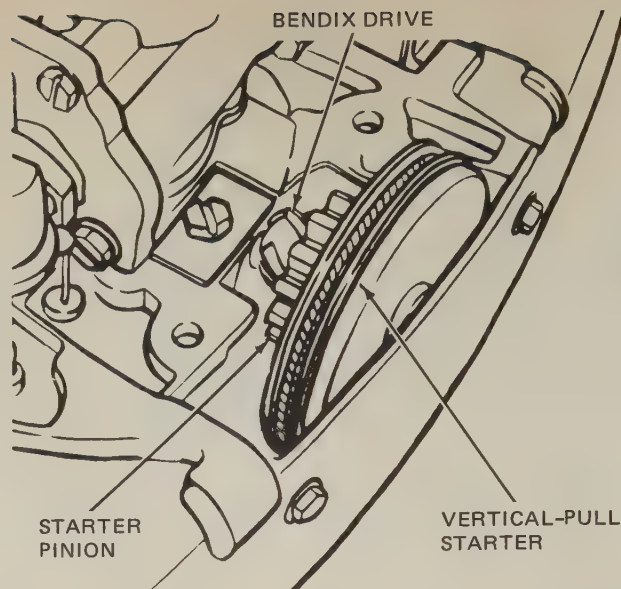

FIG. 24-21 Vertical-pull rope-rewind starter using a Bendix drive. (Evinrude Motors Division of Outboard Marine Corporation)
**○ 24-7 VERTICAL-PULL STARTERS** The rewind starter shown in Fig. 24-21 is used on some outboard engines and lawn-mower engines. It is a vertical-pull starter using a Bendix drive. To service the starter, remove the handle and let the rope slowly recoil to remove the spring tension. Then unscrew the starter-mounting bolt, and remove the starter from the engine. Hold the starter together while removing it to prevent releasing the spring.
off the plastic starter pinion. It is shown in Fig. 24-21. The pinion gear mounts on the worm gear with the grooved side toward the pulley. Remove the screws that hold the pulley plate to the pulley and disassemble the pulley (Fig. 24-22). Obtain the new replacement rope and singe the ends. Remove the old rope and install one end of the new rope in the pulley, as shown in Fig. 24-22. Install the pulley plate on the pulley and tighten the screws. Hold the starter so the worm gear points toward you, and wind the rope clockwise on the pulley.